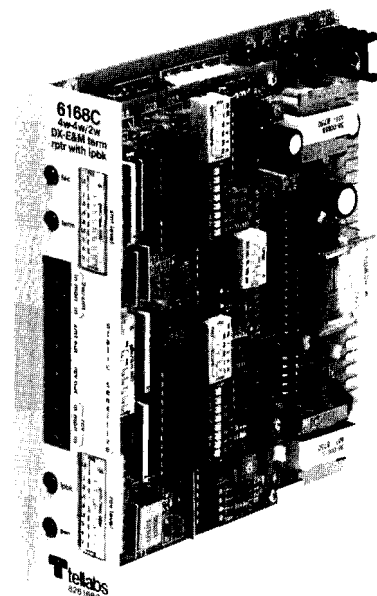

figure 1. 6168C 4Wire-to-4Wire or 4Wire-to-2Wire DX-to-E&M Terminal Repeater module with Loopback
1.01 The 6168, 6168B, and 6168C 4Wire-to-4Wire or 4Wire-to-2Wire DX-to-E&M Terminal Repeater modules (figure 1) each provide both active transmission interface and bidirectional signaling conversion between a 4wire facility that uses duplex (DX) signaling, which is extended-range E&M signaling via DX signaling leads, and a 4wire or 2wire trunk or line that uses conventional E&M signaling. Unlike ordinary DX modules, the 6168, 6168B, and 6168C contain circuitry that eliminates the need for a conventional resistive and capacitive DX balance network. In addition, the 6168B and 6168C contain transmission and signaling loopback circuitry to facilitate local or remote testing of the module and the facility. As members of Tellabs' 262 Network Channel Terminating Equipment/Data Station Termination (NCTE/DST) System of modules and enclosures, the 6168, 6168B, and 6168C each fulfill Registered Facility Interface Codes TC11E, TC11M, TC12E, TC12M, TL11E, TL11M, TL12E, TL12M when optioned for 4wire-to-2wire operation and Registered Facility Interface Codes TC31E, TC31M, TC32E, TC32M, TL31E, TL31M, TL32E, and TL32M when optioned for 4wire-to-4wire operation in applications where the serving telephone company uses facility-side DX signaling. Table 1 lists the distinguishing features of each of the three modules.